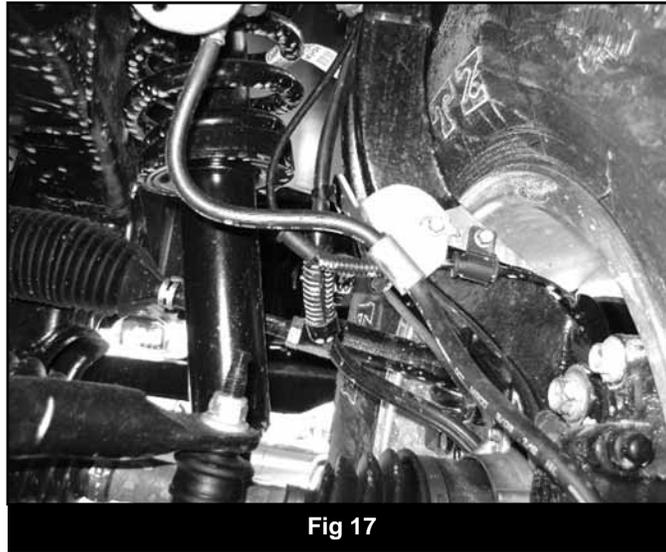

Fig 17
44. Attach the ABS line to the connector at the inner fender and the vacuum line to the hub. Route the lines similar to the factory setup down to the side of the knuckle. Attach the ABS wire with the factory 6mm bolt to the side of the knuckle. Attach the brakeline with a new 6mm x 18mm bolt with 1/4" washer to the side of the knuckle (BP# 773), the brakeline locating tab will go into the unthreaded hole. (Fig 17).